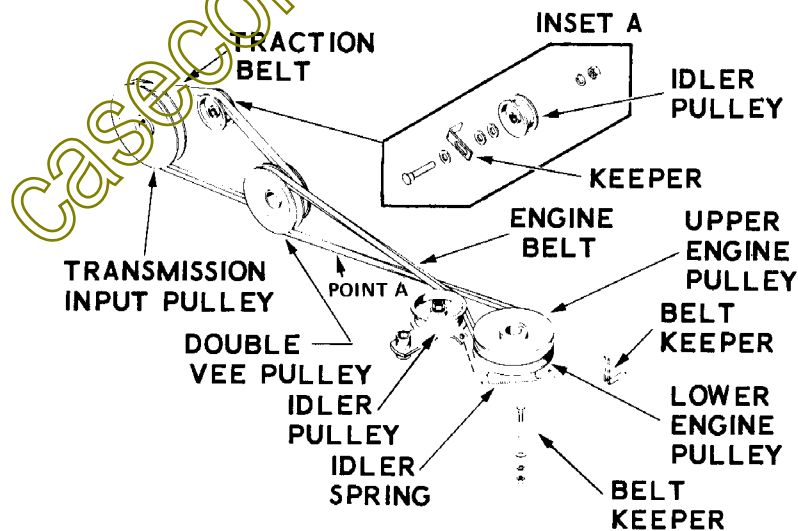
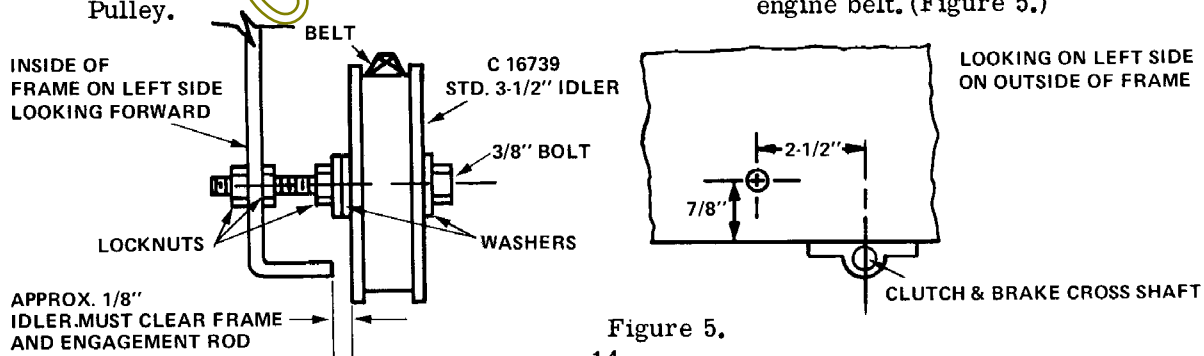

Figure 4. Model 107 Traction Belt Drive System.
Figure 5.
- f. With the front wheels turned as far as possible to the "right", install the new belt first on the Double Vee Pulley, then the Idler Pulley and last on Lower and Upper Engine Pulleys as shown in Figure 4. Make certain the belt is properly installed as illustrated with the flat "back" side against the idler pulley and the "V" side in the Vee Pulleys. If the belt is accidentally looped the wrong way, reverse rotation of the transaxle will occur resulting in 3 speeds reverse and one speed forward.
2. Apply the C 16739 to point A (Figure 4) to reduce belt vibration. This idler should be positioned on the frame rail so it just touches the backside of the engine belt. (Figure 5.)